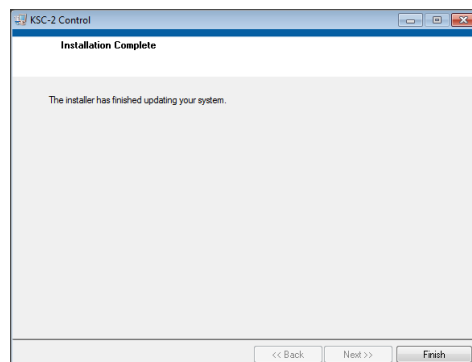

Figure 26 Installation Complete Panel
Step 5 When you see the Installation Complete panel (Figure 26), click Finish.